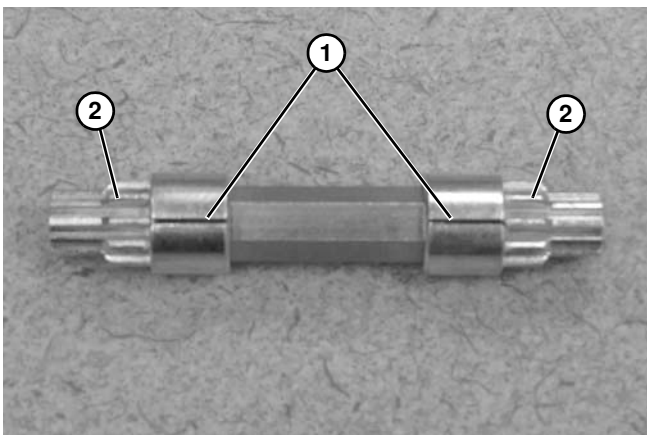

Figure 110
5. To reassemble, make sure that the lines (**Figure 110, item 1**) on the pinion end gears (**Figure 110, item 2**) are aligned.